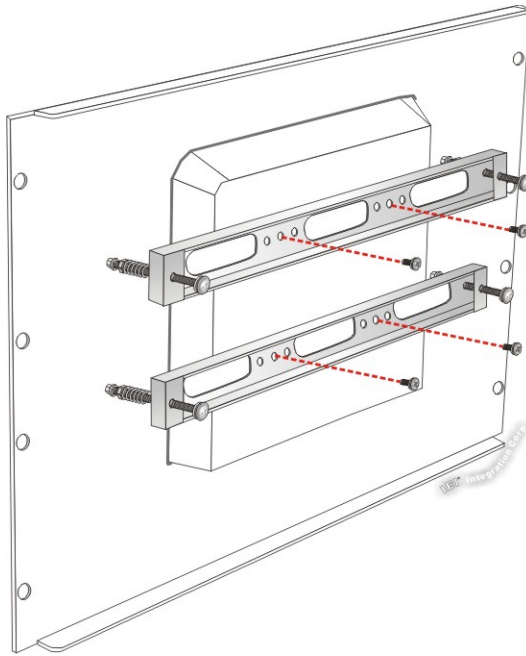

Figure 3-31: Securing Rack Mounting Brackets
- Step 5:** Secure the two rack mounting brackets to the rear of the panel PC by inserting the four retention screws into the VESA mounting holes and tightening them (Figure 3-31).